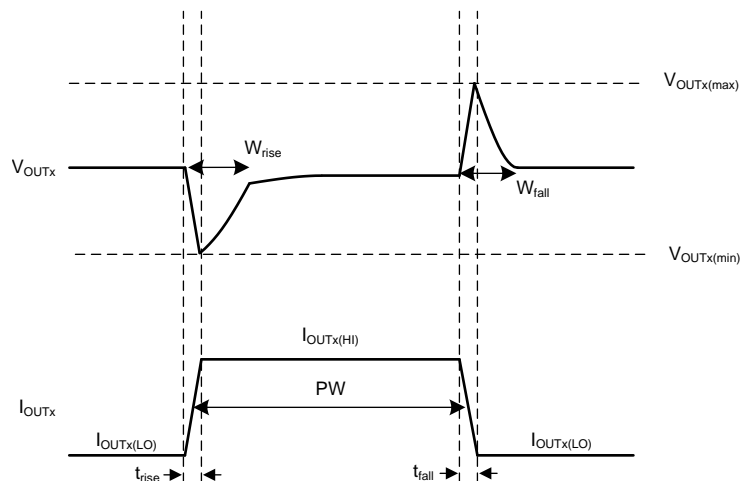

图 51. Simplified Load Transient Waveform
The transient response peaks ($V_{OUTx(max)}$ and $V_{OUTx(min)}$) are improved by using more output capacitance; however, doing so slows down the recovery time (W_{rise} and W_{fall}). 图 51 shows these parameters during a load transient with a given pulse duration (PW) and current levels ($I_{OUTx(LO)}$ and $I_{OUTx(HI)}$).